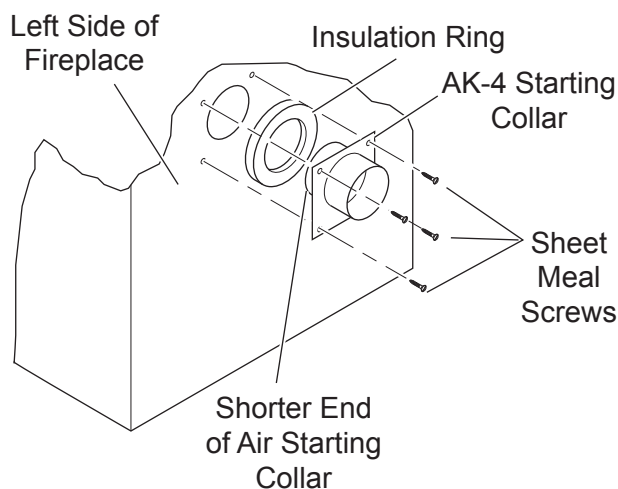

Figure 26 - Attaching Outside Air Starting Collar and Insulation Ring to Left Side of Fireplace
3. Place the starting collar (4") into the hole on the side of fireplace. Fasten it in place with the four sheet metal screws provided. **See Figures 26 and 28.**